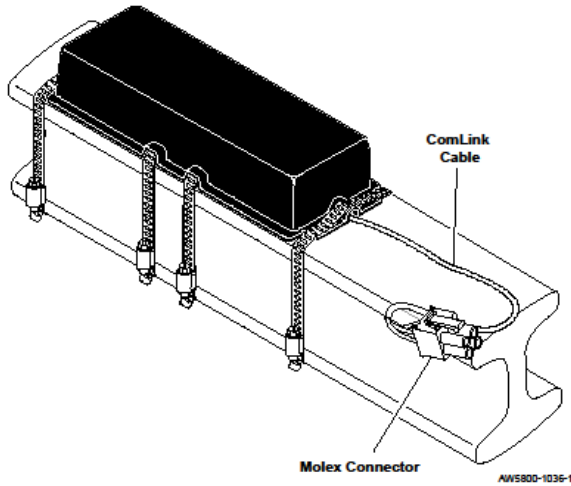

Figure 19. Cover with Sensor Extension Cable
4. Installation of the Steer Deflection Sensor is complete. Figure 19 shows covered sensor with sensor cable extending towards the ComLink module.